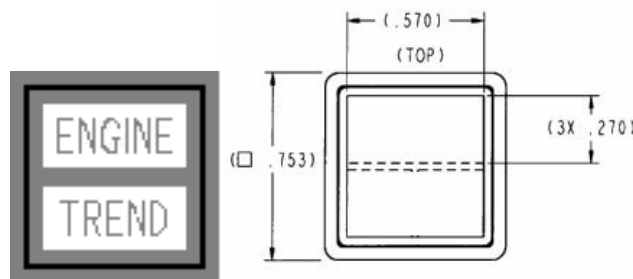

Figure 7: ENGINE/TREND Split Lamp
- **ENGINE/TREND Split Lamp Option** – The split lamp (annunciator), shown in Figure 7, consists of a single Engine/Trend switch fault lamp that is mounted in the cockpit instrument panel or console. The annunciator consists of a .75" x .75" square push-to-test lamp that is split into two segments. The ENGINE segment is amber in color when illuminated and the TREND segment is white in color when illuminated. Similar to the standard Trend Switch / Fault Lamp the Engine/Trend switch fault lamp is used to initiate a processor loop back test or initiate a manual trend sample. Fault indications are displayed to the operator through the on/off or flashing of the TREND lamp.